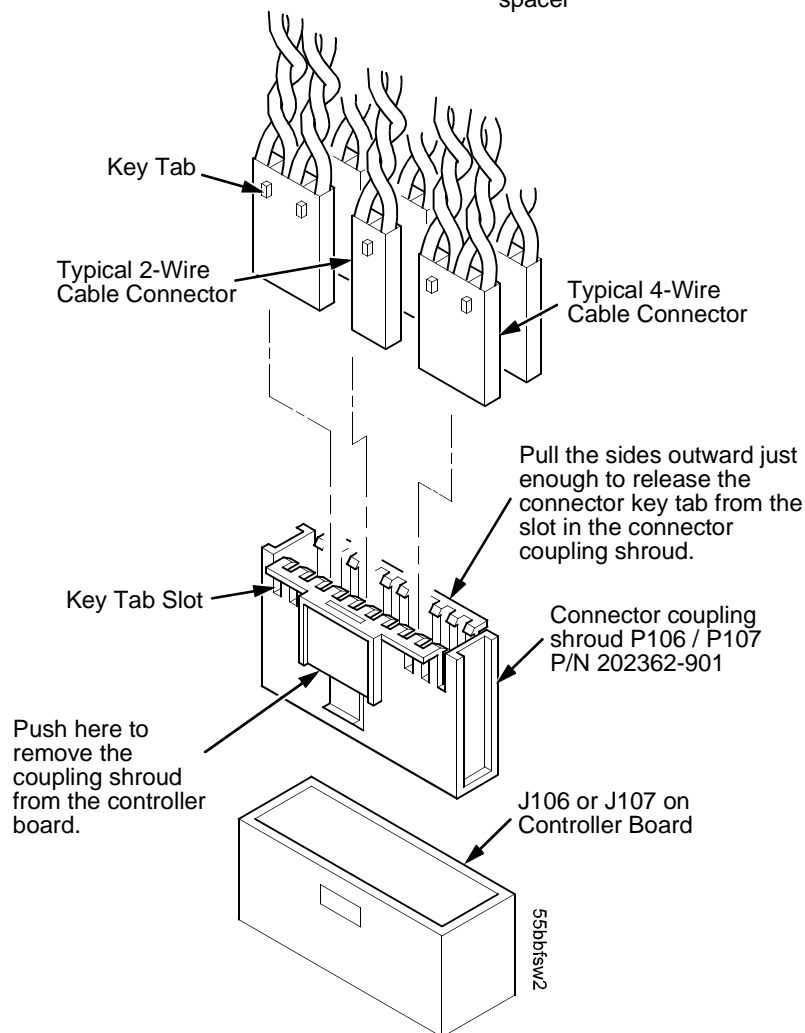

Figure 22. Cable Connector Coupling Shroud, Disassembly/Assembly
4. Pull the side of the connector coupling shroud outward and gently pull the cable connector upward. (See Figure 22.) Notice that two-wire connectors are grouped across from two-wire connectors in a connector coupling shroud. Four-wire connectors are grouped across from four-wire connectors in a connector coupling shroud.
1. Position the cable connector in the connector coupling shroud. Two-wire connectors are always grouped across from two-wire connectors in a connector coupling shroud. Four-wire connectors are always grouped across from four-wire connectors in a connector coupling shroud. (See Figure 22.)